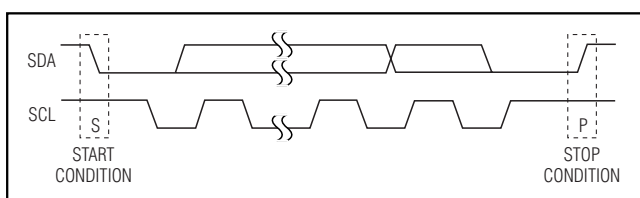

Figure 3. Start and Stop Conditions
Each transmission consists of a START condition (Figure 3) sent by a master, followed by the MAX7314 7-bit slave address plus R/W bit, a register address byte, one or more data bytes, and finally a STOP condition (Figure 3).
Both SCL and SDA remain high when the interface is not busy. A master signals the beginning of a transmission with a START (S) condition by transitioning SDA from high to low while SCL is high. When the master has finished communicating with the slave, it issues a STOP (P) condition by transitioning SDA from low to high while SCL is high. The bus is then free for another transmission (Figure 3).